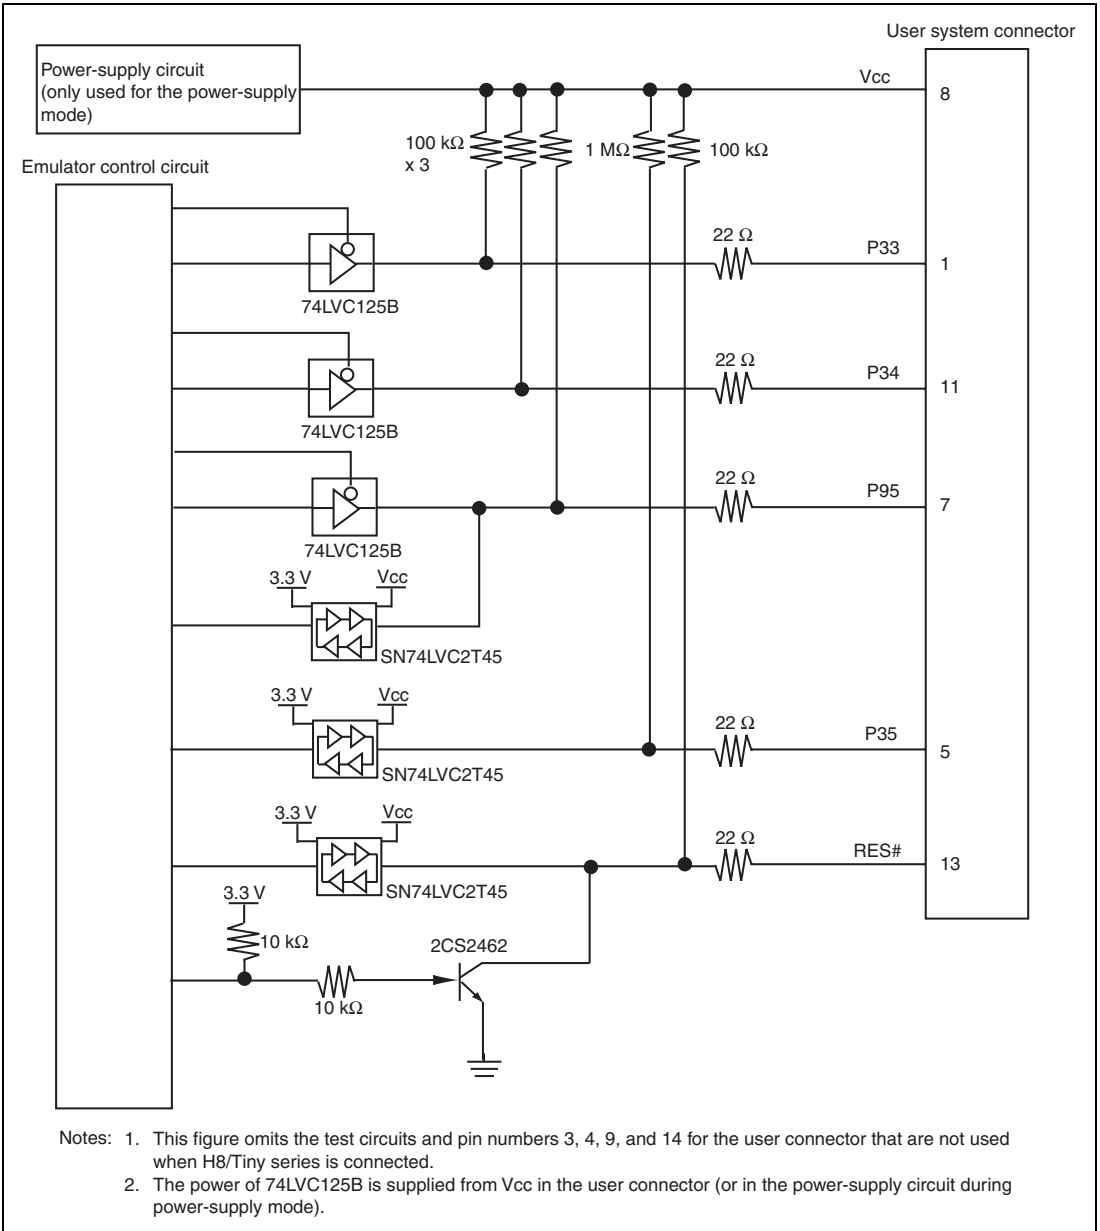

Figure 4.5 Interface Circuit in the E8a Emulator (Reference)
6. Figure 4.5 shows the interface circuit in the E8a emulator. Use these figures as references when determining the pull-up resistance value.